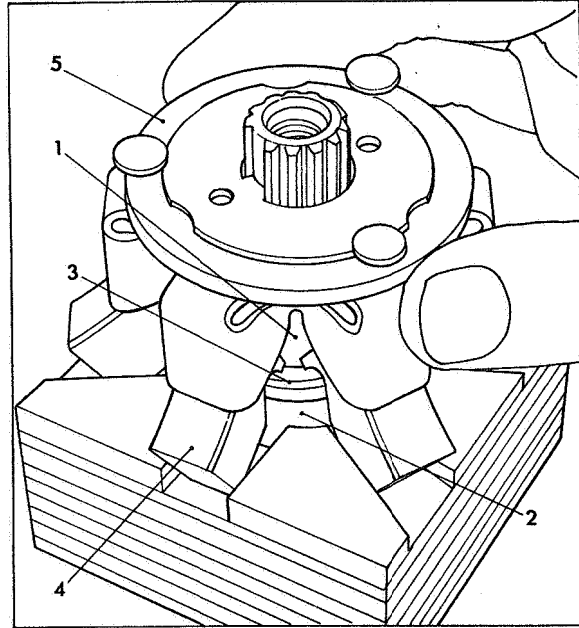

Fig 13 Assembling governor weight components
Place drive shaft (1) Fig 13 into fixture 7144-894, seal groove uppermost. Assemble thrust sleeve (2) stepped end downwards, then thrust washer (3). Offer up a governor weight (4) and adjust the height of the fixture until the lip of the governor weight sits on the thrust washer. Place remaining governor weights in a similar position around the drive shaft. Align drive shaft with cush drive hub splines and slide cush drive retainer assembly (5) onto weights. Using Protection Cap Part No 7144-900 assemble drive shaft seal. Take off protection cap and remove complete assembly from the fixture.